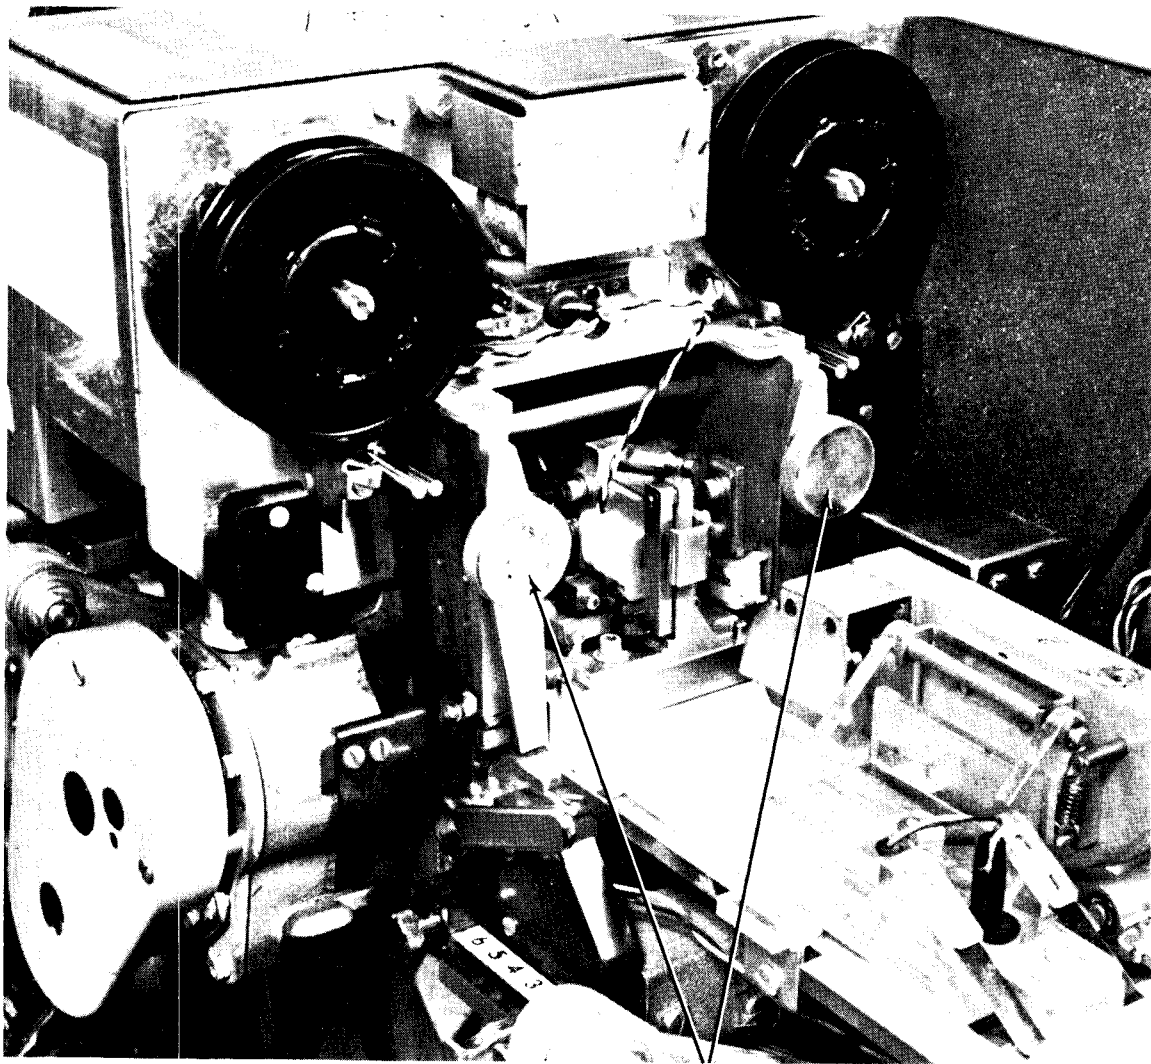

Figure 20. Platen Assembly
*Removing the Platen (Figure 20):*